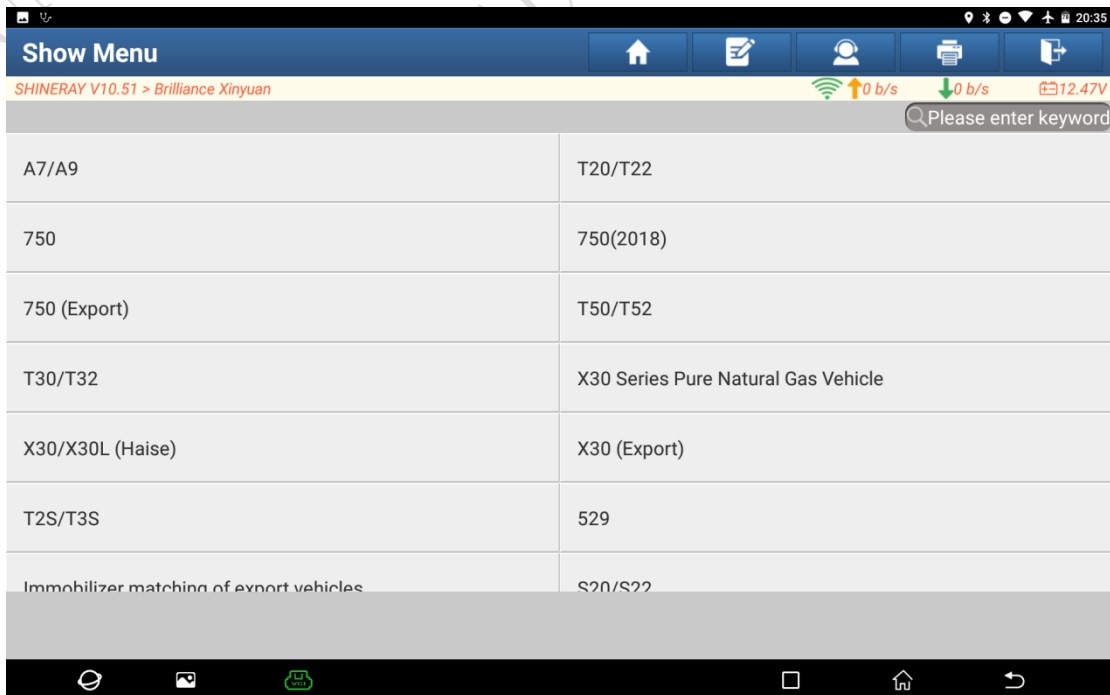

Figure 3
- 3. Choose [X30 (Export)] on the model selection interface and continue, as shown in Figure 3.